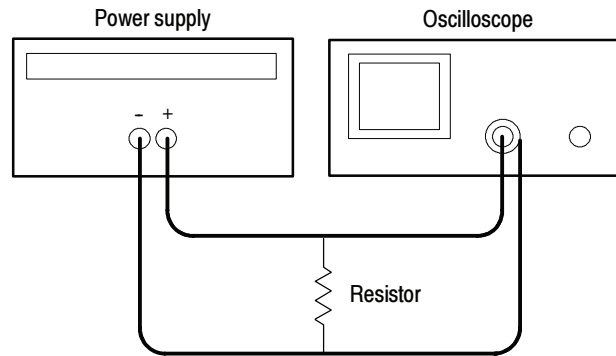

Figure 9: Constant voltage ripple and noise test setup
2. Ensure that the power supply output is disabled. Connect the oscilloscope and 27Ω 75 W resistor to the front panel OUTPUT 1 terminals. See Figure 9 for details.
10. Ensure that the power supply output is disabled. Remove the leads from the front panel OUTPUT 1 terminals and connect them to the front panel OUTPUT 2 terminals. Maintain the equipment configuration and polarities shown in Figure 9.
2. Ensure that the power supply output is disabled. Connect the oscilloscope and 2.2 Ω 50 W resistor to the front panel OUTPUT 3 terminals. See Figure 9 for details.